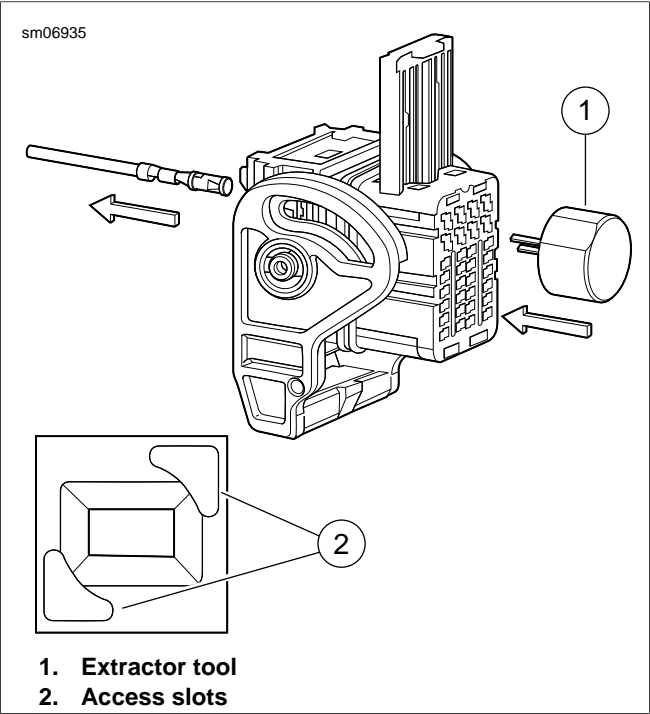

Figure A-45. Terminal Removal
8. See Figure A-45. Insert the pins of the CMC extractor tool (1) into the access slots (2) of the terminal cavity and retract the lead and terminal.